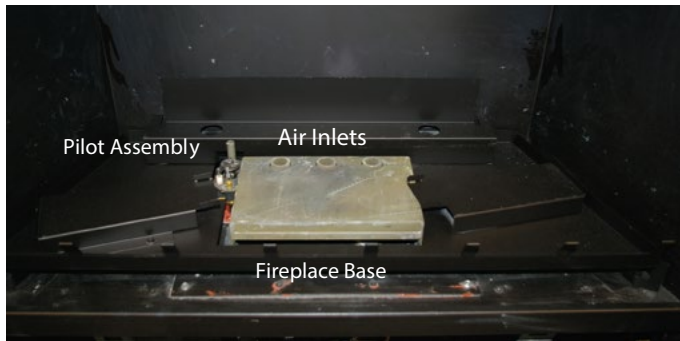
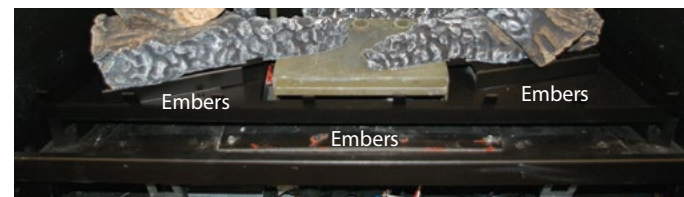

Figure 8a. H34VON's Fireplace Base.
Figure 8f. Placing Embers.
Step 7. Place the Embers as shown in **figure 8f**. Arrange the ember chips on top of the burner tray. Care should be taken when placing the embers, as blocked burner ports may cause an incorrect flame pattern, carbon deposits and delayed ignition. Also, the embers must never be placed in a way that obstructs any of the air inlet ports, located at the rear of the burner, as shown in **figure 8a**.